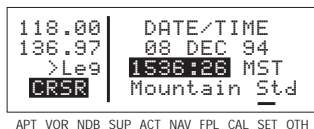

Figure 3-162
- Press **ENT** to start the KLX 135A using the newly entered date (figure 3-162).